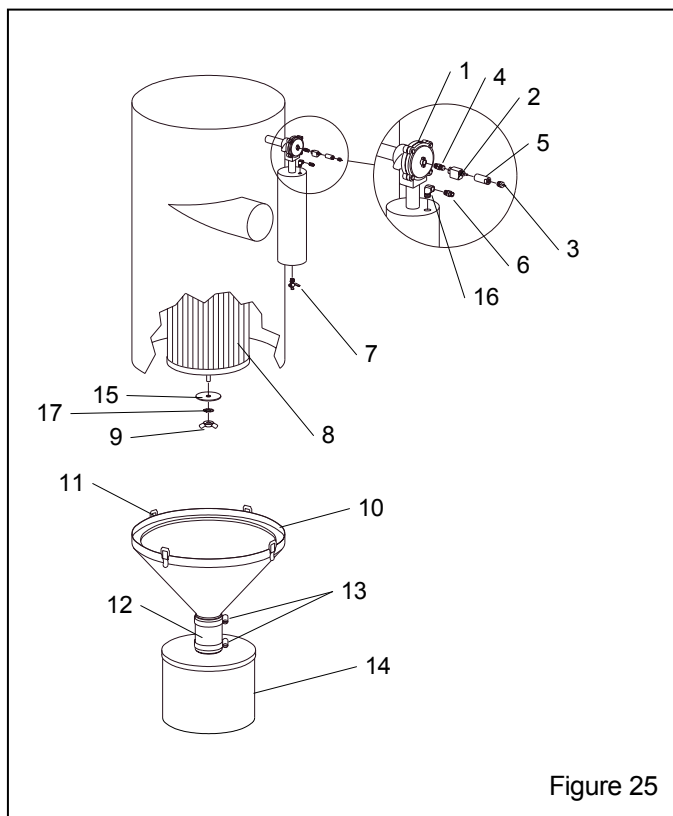

Figure 25
9.11 Dust Collector, Figure 25